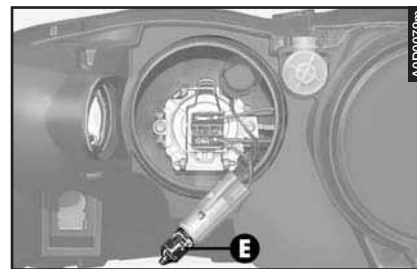

fig. 47
- Remove the bulb (**E- fig. 47**) from the bulb holder, pushing it slightly and turning it counter-clockwise.